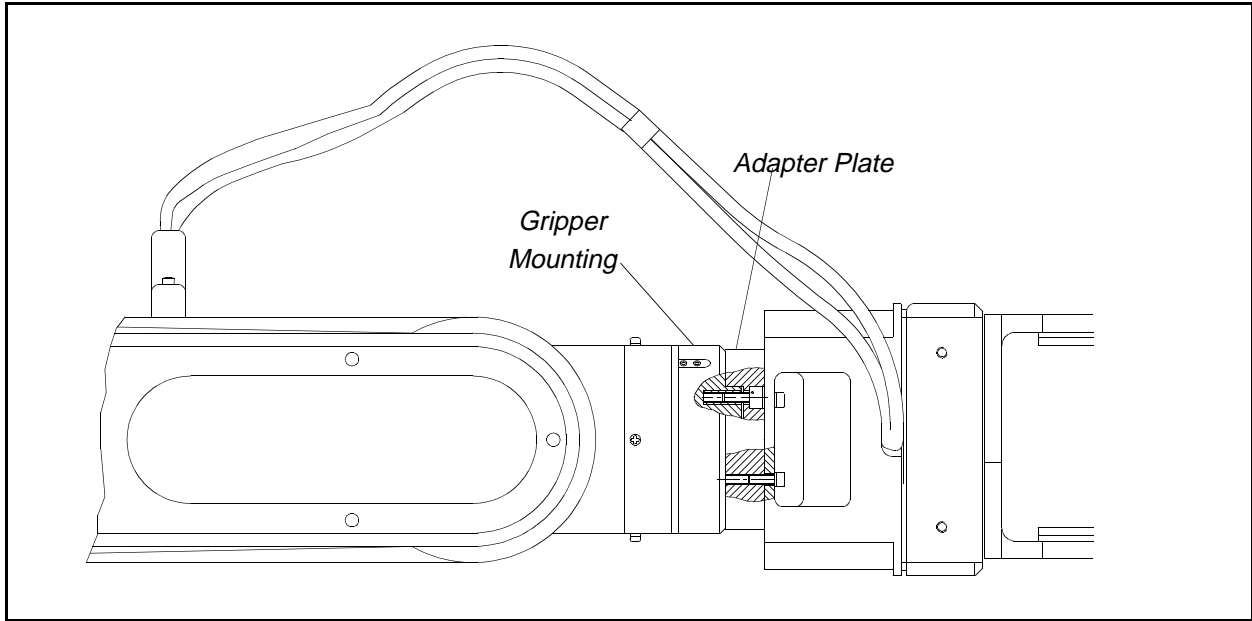

Figure 5: Attaching Gripper to PERFORMER-MK2
5. Using four M5x10 socket screws and a 4mm Allen key (hex wrench), attach the gripper adapter plate to the flange at the end of the robot arm, as shown in Figure 5.
6. Using four M4x10 socket screws and a 3mm Allen key, attach the gripper to the adapter plate, as shown in Figure 5.